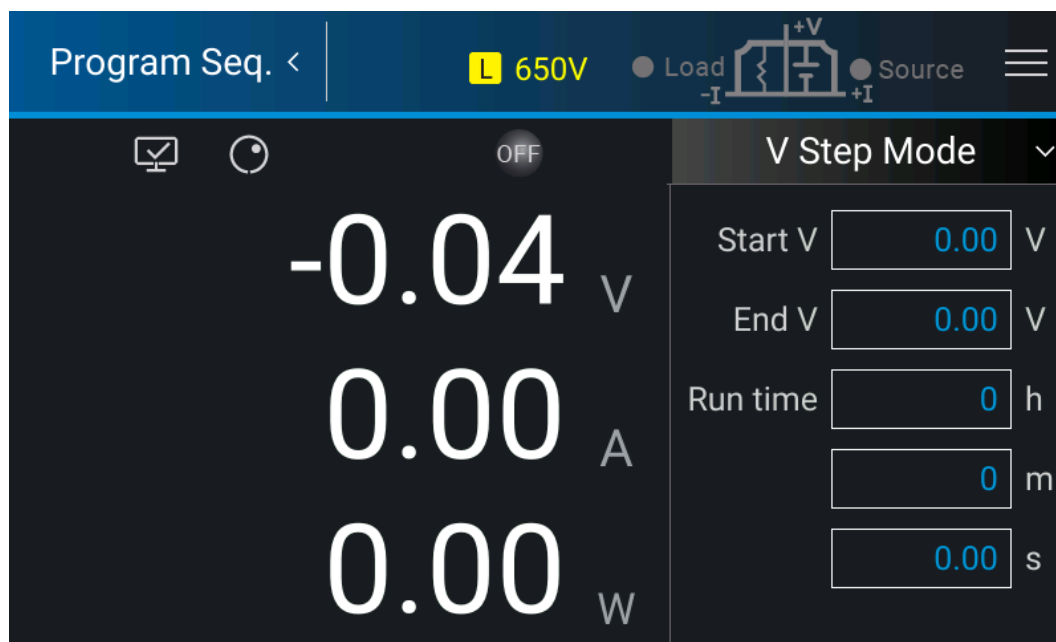

Figure 4-3
3. Select “**V Step Mode**” to enter into V Step Mode as Figure 4-3 shows.